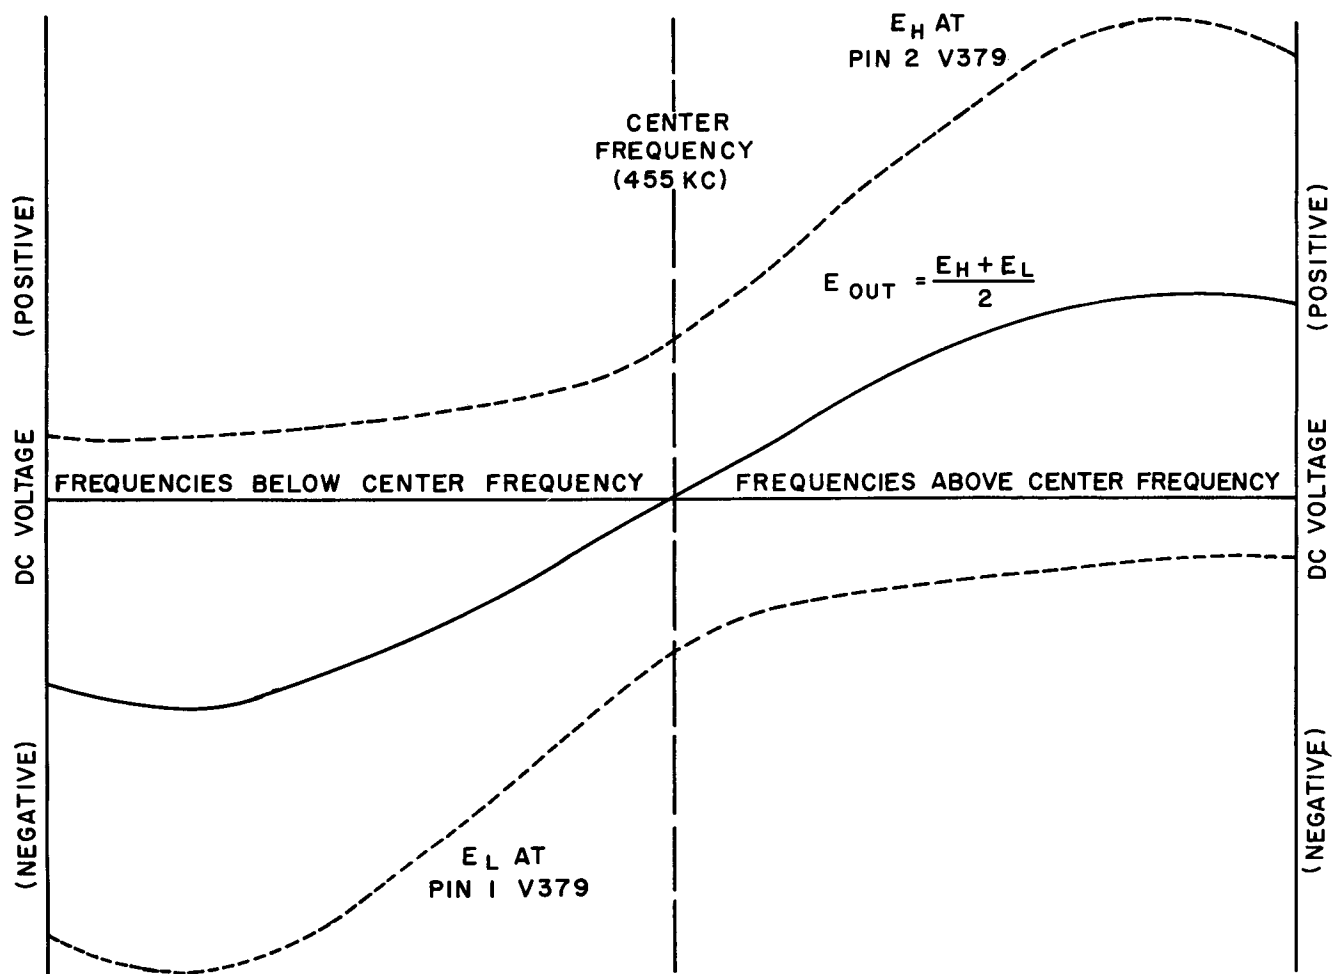

Figure 56. Variations of discriminator voltage with frequency.
b. The output from the high responsive half of the discriminator tube appears on the cathode (pin 5) which is across the load resistor R371. This half of the discriminator tube operates as a detector with a positive envelope output. Capacitor C380 is a filter capacitor which maintains the output voltage at a high positive level, thus smoothing out the envelope. Therefore, the output from the high responsive half of the discriminator circuit is positive and becomes more positive as the frequency of the input signal increases. The positive output signal is applied to the discriminator voltage division circuit, R372 and R373. Figure 56 shows the relative positive output from V379 pin 2 compared with other discriminator voltages.